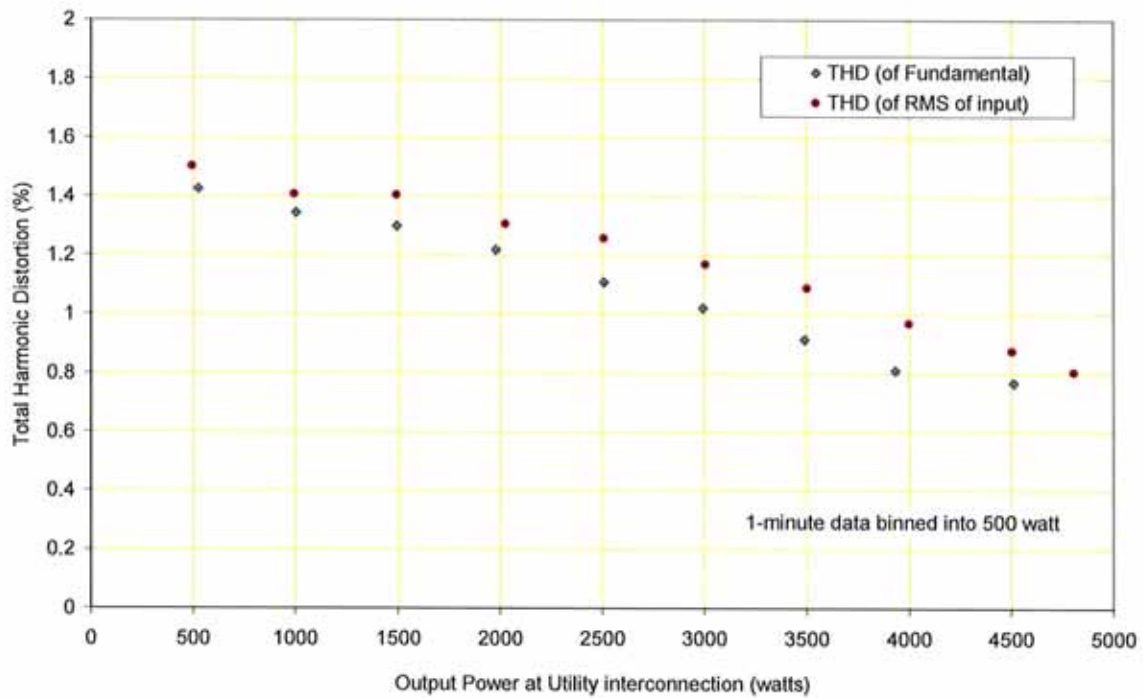

Figure 2. Total harmonic distortion
0.5%). The Phaser can be configured to calculate either THD-F, a ratio of the harmonics to the fundamental or THD-R, a ratio of the harmonics to the RMS of the input. Both THD-F and THD-R were collected. Data was collected at 5 Hz and averaged for 1 minute then binned into 500 watt bins, as shown in Figure 2 on page 1-4.